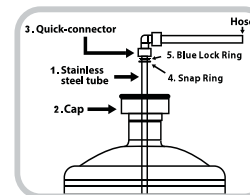

Fig.1
3. Installing the water bottle pump connection (Fig. 1)
- A. With a 3 or 5 gallon water bottle standing outside the unit, just in front of the opened cabinet, place the stainless steel tube (1) inside the bottle with at least a gallon of water (insert the bent end of the tube into the bottle). Part of the tube will be exposed over the bottle neck. It is normal to have a further portion of the tube exposed when using a 3 gallon water bottle.
- B. Slide the bottle cap (2) over the tube and press it down on the opening of the bottle to secure it.